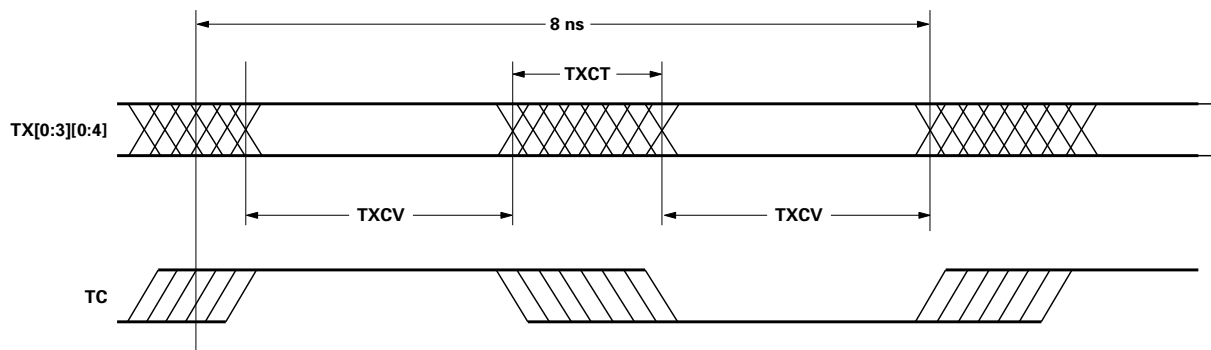

Figure 3. Transmitter section parallel input timing.
For each channel, the transmitter accepts 10-bit characters as two groups of 5-pin single-ended SSTL_2 parallel data at inputs TX [0:3][0:4]. The SSTL_2 TC clock provided by the sender of transmit data is used for all channels as the transmit byte clock. The TX [0:3][0:4] and TC signals must be properly aligned, as shown in Figure 3.
The transmitter Phase Locked Loop and Clock Generator (TX PLL/CLOCK GENERATOR) block generates all internal clocks needed by the transmitter section to perform its functions. These clocks are based on the transmit byte clock (TC). TC is also used to determine the sampling window for the incoming data latches. Incoming data is synchronous with TC (see Figure 3).